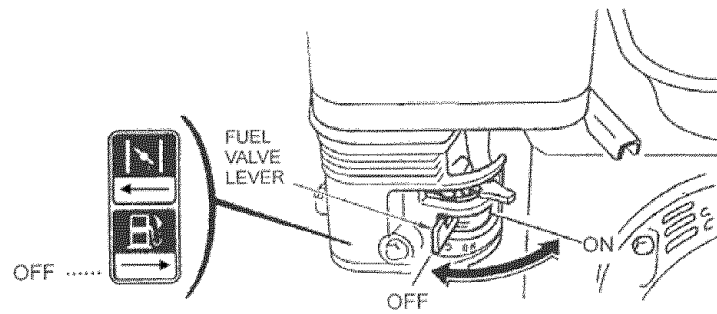

Figure 8- Fuel Valve Lever
1. Move the fuel valve lever to the ON position as shown in figure 8.